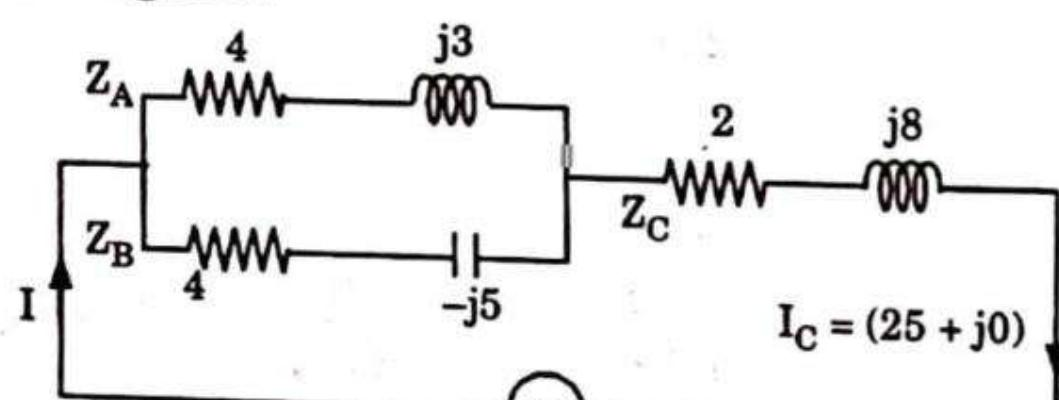

Fig. 2.36.1.
1. The circuit is shown in Fig. 2.36.1.